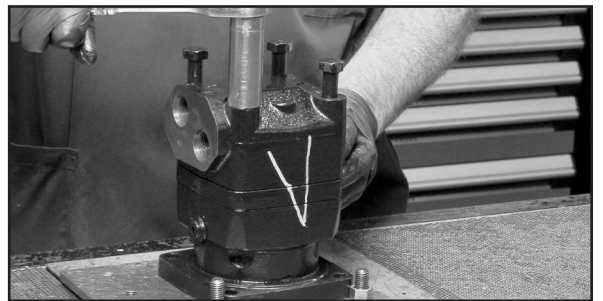

Figure 3
**Remove Bolts** Using a torque wrench, remove four 7/8" bolts that hold the end cover onto motor. (Figure 3)